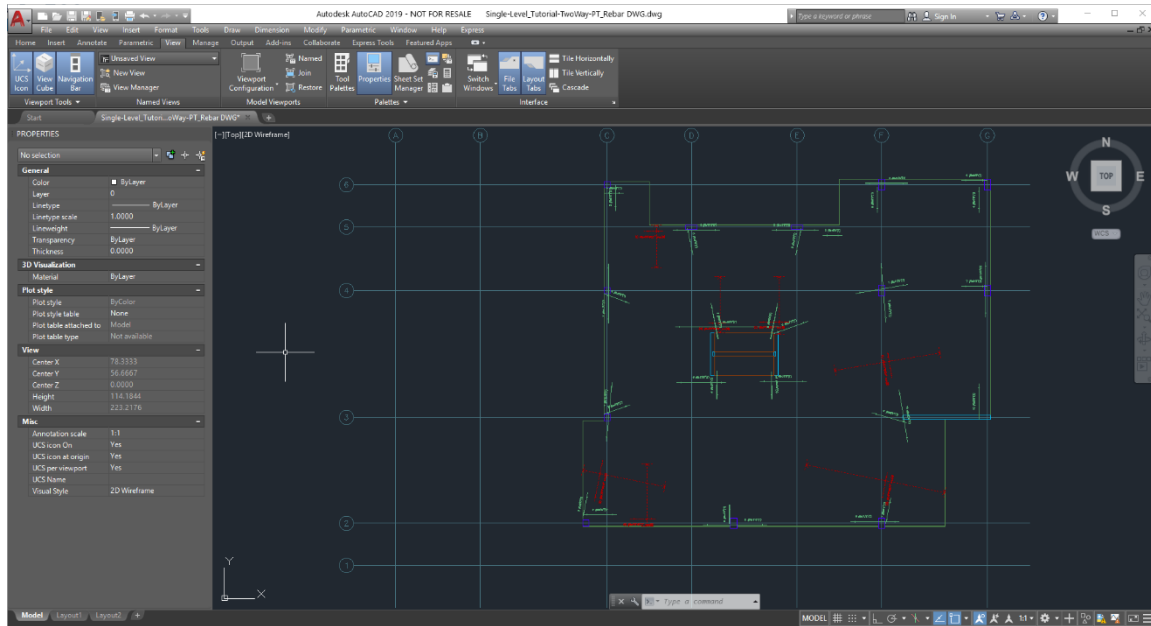

Figure 8-87
- Opening the drawing the user should have a CAD file that looks similar to the CAD file shown in **FIGURE 8-87**.